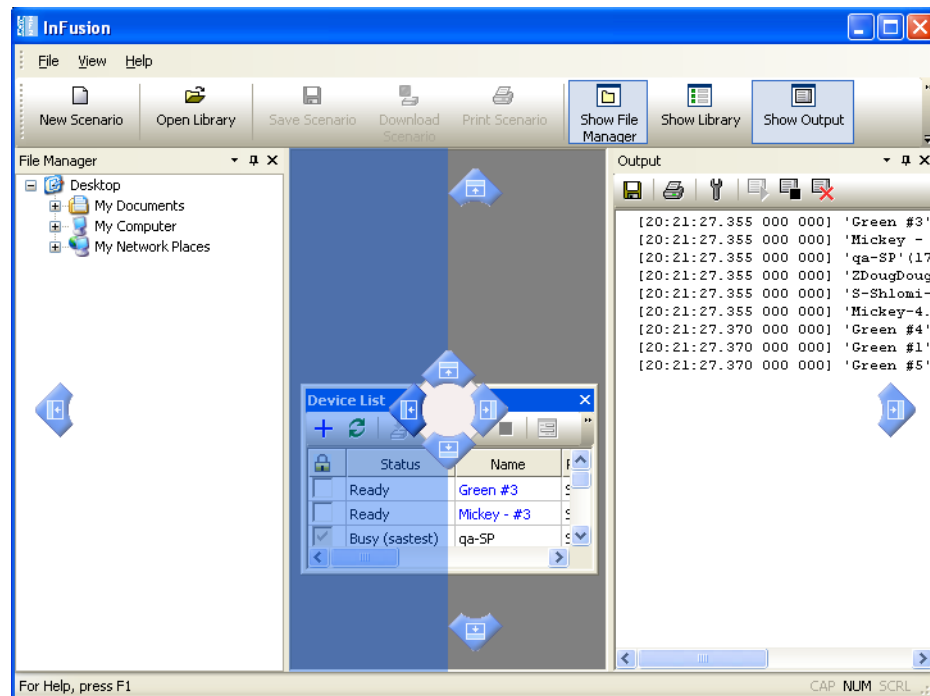

Figure 4.9 Application Display: New Location of Window
- Step 2** Drag the window over one of the Positioning buttons. When the mouse pointer is over the Positioning button, a ghost-like window pane appears (Figure 4.9). It shows you a preview of the new location of the window.